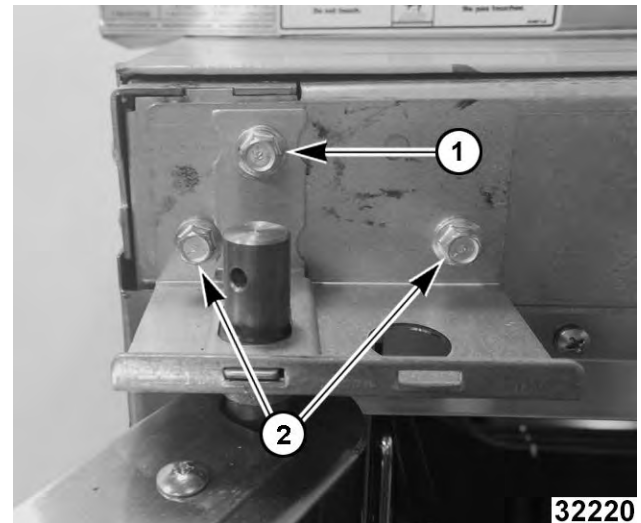

Fig. 42
- 6. While supporting door, remove hex head bolts holding upper bearing retainer (1, Fig. 42) and upper shaft bracket (2, Fig. 42).